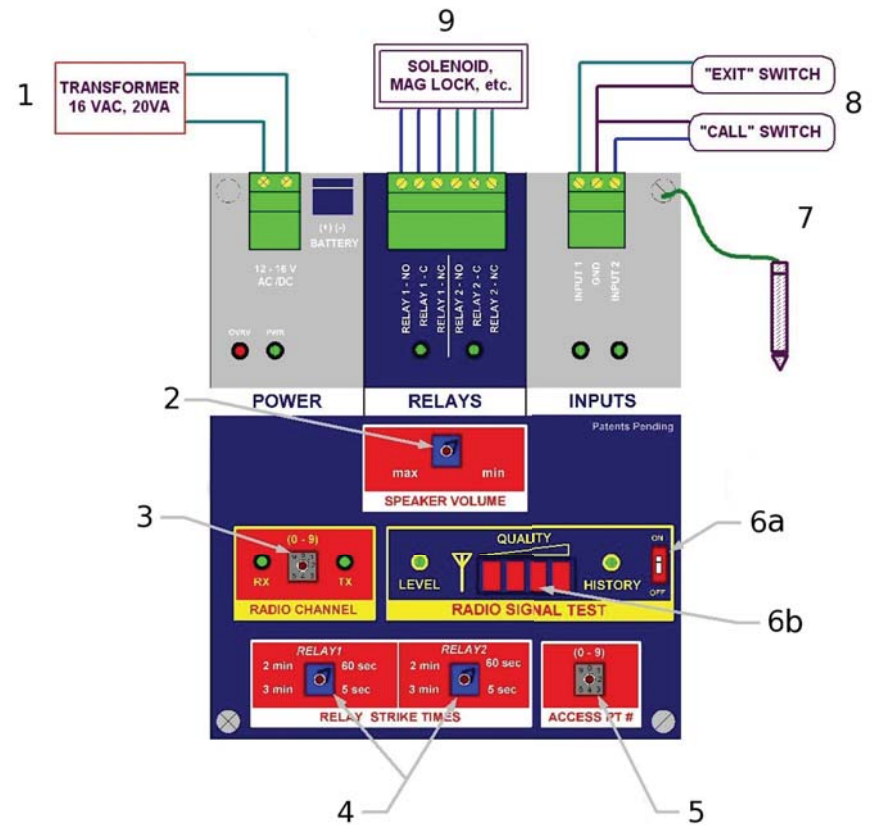

Figure 3
**Note:** Step numbers correspond to numbers in figure 3.